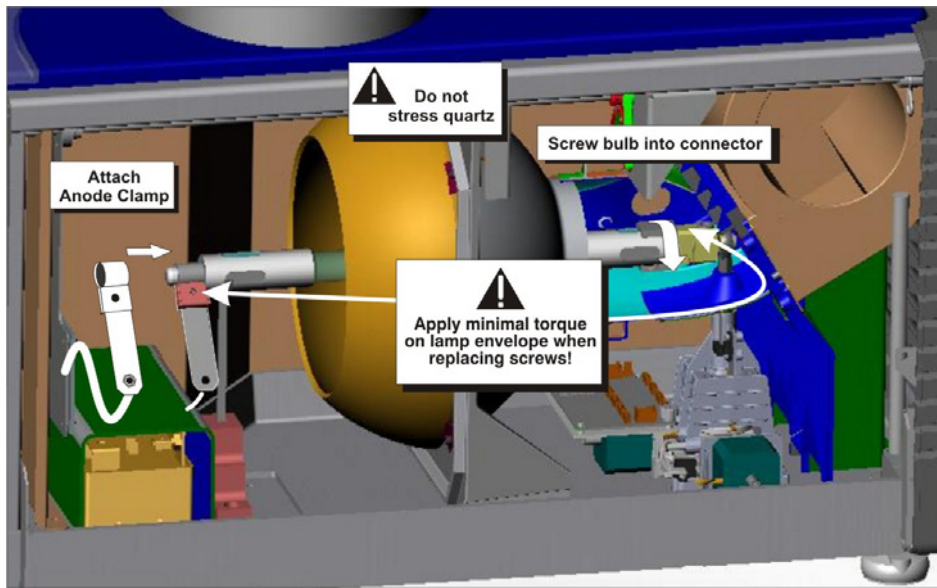

Figure 7-2 Install New Lamp
- b. Insert the threaded cathode (-) end of the lamp into the negative lamp (-) connector nut located in the rear of the lamp compartment. (Figure 7-2) Using both hands, hand-tighten this end into the threaded nut. **Caution! 1)** Handle the lamp by the cathode/anode end shafts only, never the glass. **DO NOT** over-
- c. Rest the anode (+) end of the lamp on the anode yoke and slip the positive lamp connector over the bulb end. **(Figure 7-2)** Using the 5mm Allen key, squeeze together with the anode clamp making sure not to place any torque on the lamp quartz tube. **Important!** For CDXL-30SD lamps, make sure the “flat” part of the anode end of the lamp (if applicable) is facing in the 10 or 2 o’clock position once the lamp finger is installed in the 14mm threads and the clamp screw is tightened. For all other lamp types, keep the “flat” part of the anode end of the lamp facing up. **WARNING! Explosion hazard - Do not apply torque to the anode end of the lamp.**